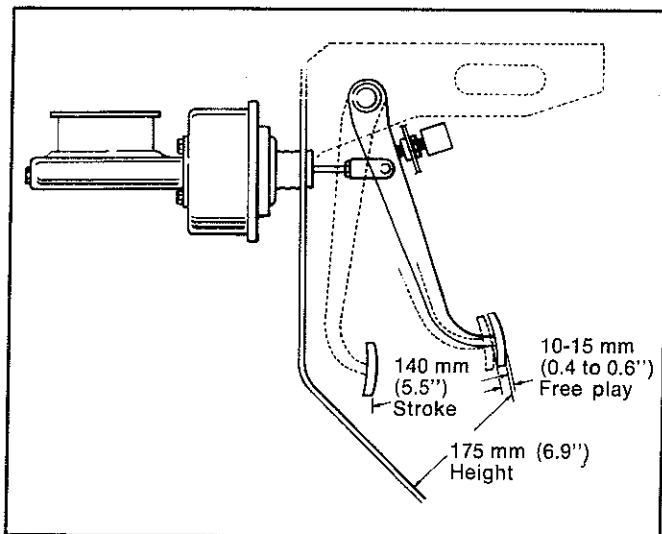

Fig. 7—Brake pedal adjustment
- (4) With the operating rod adjusted, adjust the brake pedal stopper (i.e. brake switch) until 10 to 15 mm (0.4 to 0.6") free play exists at the brake pedal, refer Fig. 7.